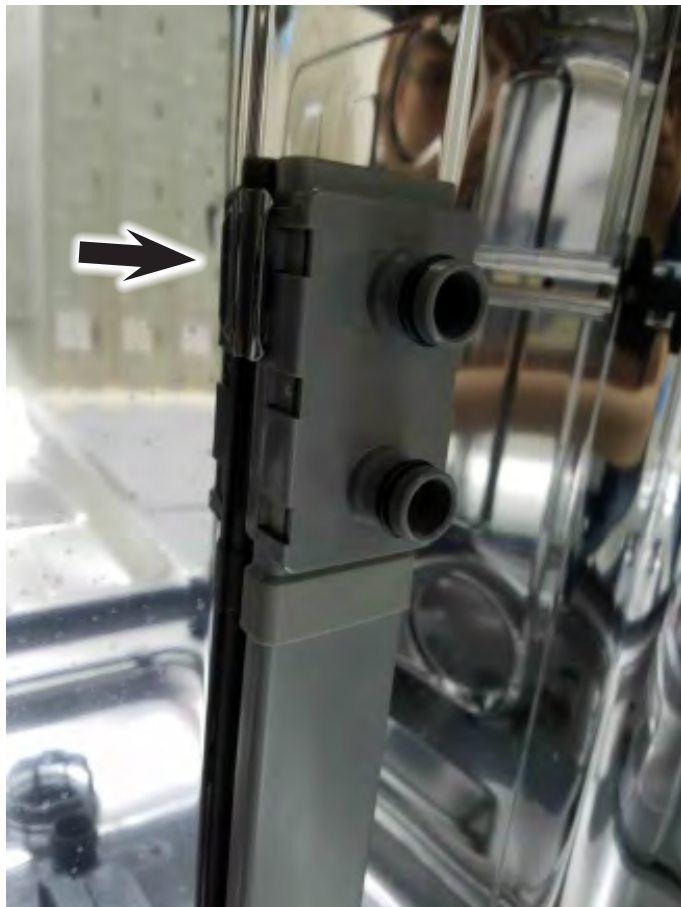

Figure 2
3. Release the snap clips (left side shown in the Figure 2). Then remove the nozzle duct and lower spray seat.